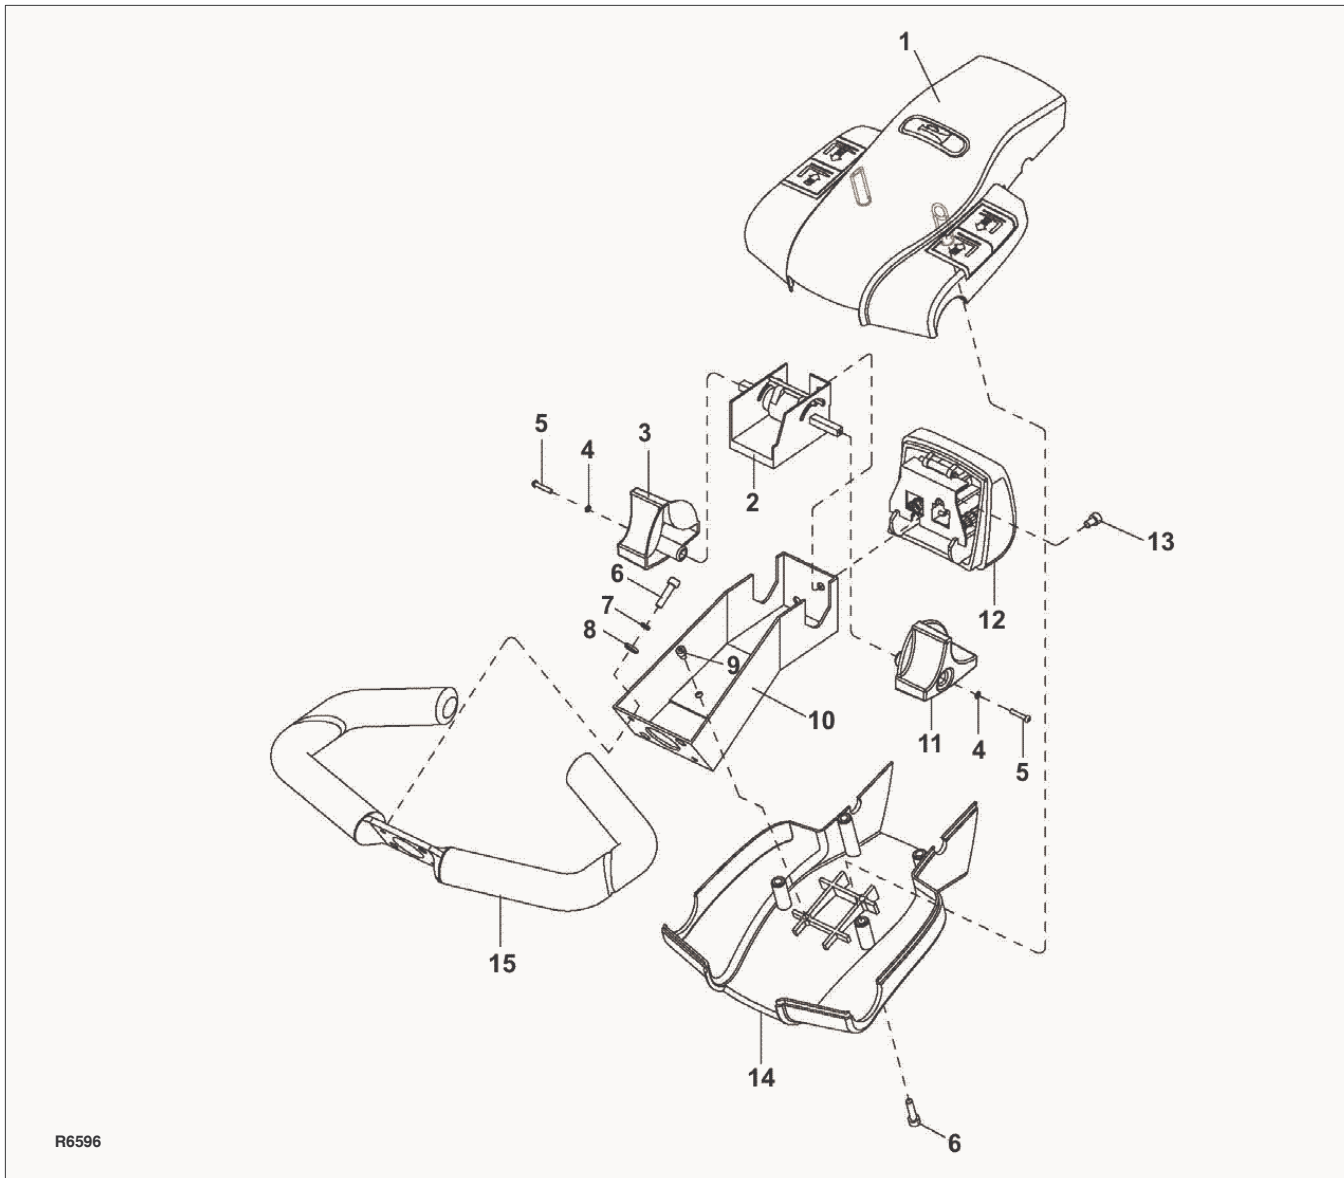

Figure 5-2 Control Head
3. Remove two screws (6, Figure 5-2), two washers (7) and two flat washers (8).
4. Disconnect harness (6, Figure 12-28) from harness (7) and remove the control head and handle (15, Figure 5-2).
2. Secure control head and handle (15, Figure 5-2) with two screws (6), two washers (7) and two flat washers (8).
2. Remove four screws (6, Figure 5-2) and lift up cap assembly (1) and disconnect harness (5, Figure 12-28) from harness (6).
1. Hold cap assembly (1, Figure 5-2) in place and connect harness (5, Figure 12-28) to harness (6).
3. Remove two screws (13, Figure 5-2) and remove switch assembly (12) from bracket (10).
8. Position bracket (5) in button (1) and install pin (6).
9. Position switch assembly (12, Figure 5-2) on bracket (10) and secure with two screws (13).
3. Remove two pins (10) and switch (6) from bracket (7).
4. Disconnect harness (5, Figure 12-28) from switch (6, Figure 5-2) and connect it to the new switch.
5. Position the new switch (6) in bracket (7) and secure with two pins (10).
6. Position bracket (7) in cover (1) and secure with three screws (8).
2. Disconnect harness (9, Figure 12-28) from potentiometer (2, Figure 5-2).
3. Remove screw (5), washer (4) and control knob (3) from potentiometer (2).
4. Remove screw (5), washer (4) and control knob (11) from other side of potentiometer (2).
5. Remove two screws (13) and remove potentiometer (2) from bracket (10).
6. Position new potentiometer (2) in bracket (10) and secure with two screws (13).
7. Install control knob (3) on potentiometer (2) and secure with screw (5), and washer (4).
8. Install control knob (11) on the other side of potentiometer (2) and secure with screw (5), and washer (4).
9. Connect harness (9, Figure 12-28) to potentiometer (2, Figure 5-2).